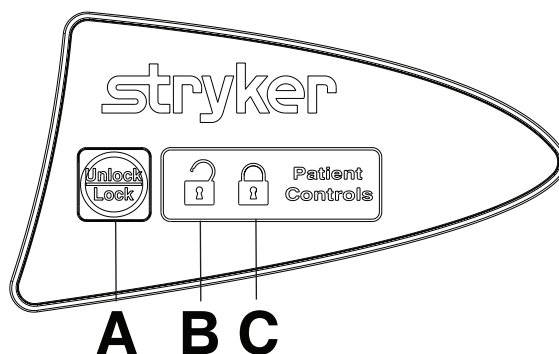

Figure 16 – Patient control panel lockout
To lock the siderail patient control panel, press **Unlock/Lock** (A) once (Figure 16).